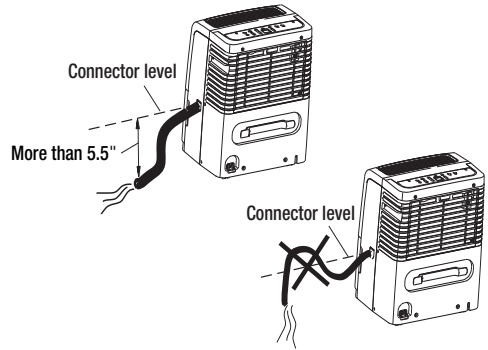

Figure 3
- Place the other end of garden hose into a floor drain. Check to see that the hose lies flat and is draining. Make sure all the parts of the hose is on a lower level than the hose connector on the dehumidifier. Also, the outlet of the hose should be at least 5.5 in. lower than the hose connector. The hose should not be kinked or pinched. (Figure 3)
- To disconnect the drain hose, push connector A in, and then pull connector B out. (Figure 3)
- Clean the water filters with soft brush. (Figure 3)